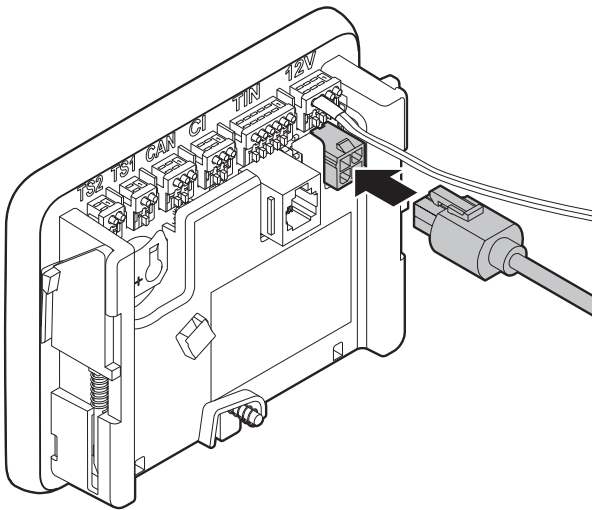

Fig. 6
- Insert the plug of the cable into the 12 V connection of the panel (Fig. 6).